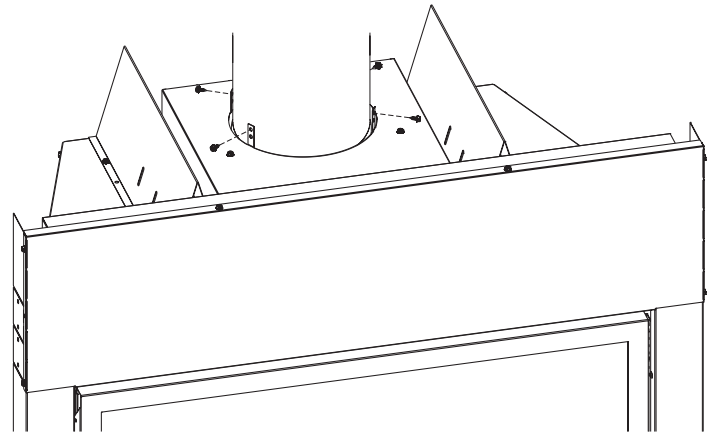

**Figure 20**
1. Hand bend the tabs up on the Outer Wrapper Top Assembly as shown in **Figure 20**.